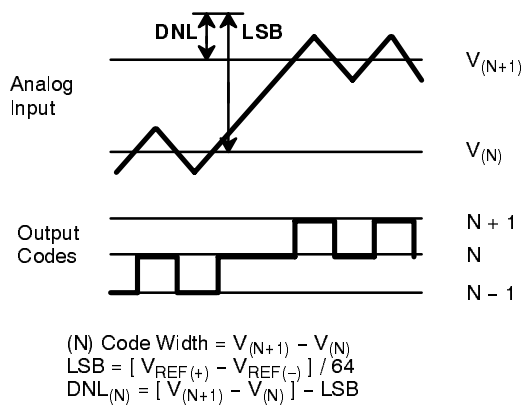
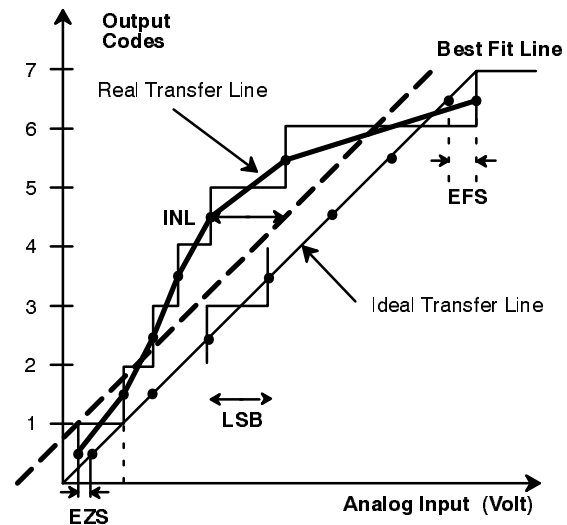

Figure 3. DNL Measurement
Figure 4. INL Error Calculation
- ¹ Tester measures code transitions by dithering the voltage of the analog input (V_{IN}). The difference between the measured and the ideal code width ($V_{REF}/64$) is the DNL error (Figure 3). The INL error is the maximum distance (in LSBs) from the Best Fit Line to any transition voltage (Figure 4). Accuracy is a function of the sampling rate (F_S).